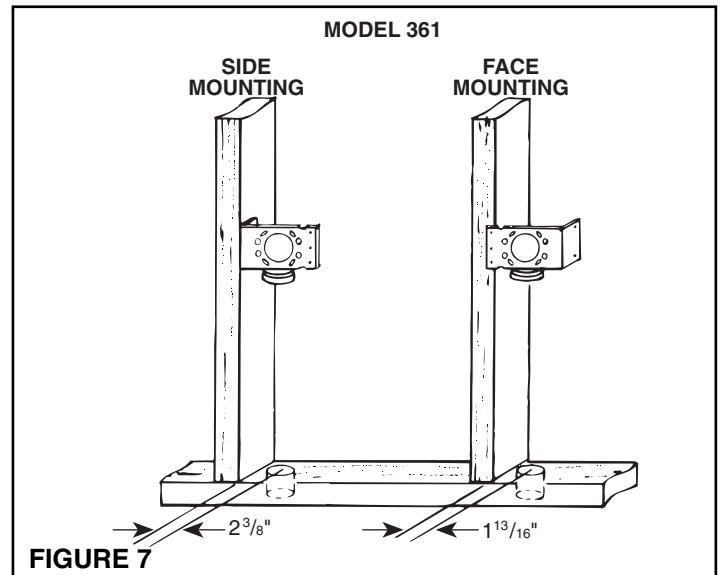

FIGURE 7
3. Refer to Figure 7. Nail bracket to side of stud so that front edge of bracket is flush to front of stud. (The bracket may also be nailed to the front edge of the stud. See face mounting illustrated. For face mounting, use locating tabs on bracket for proper alignment.)